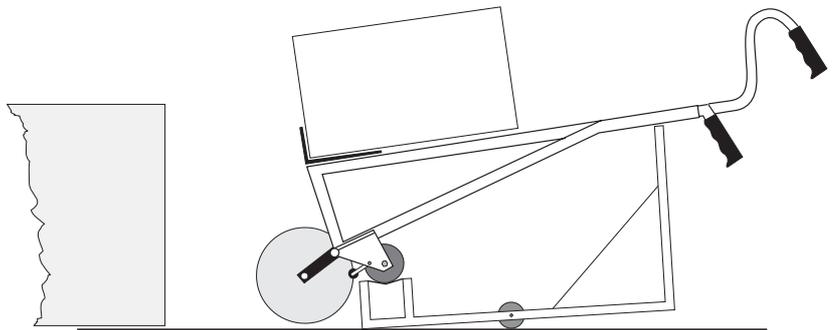

FIGURE 42
3. Now let the small supporting wheels climb onto the supporting frame as you would on a step and put down the handlebars of the **CargoMaster** as shown in Figure 42.